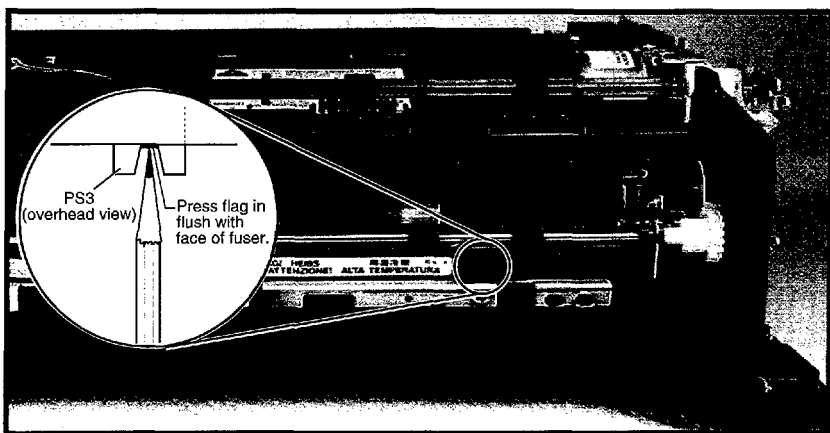

Figure 7-6 Defeating the Exit Sensor Flag (LaserJet 4P/4MP)
5. On the rear of the Fusing Assembly, use a pencil or flat-blade screwdriver to press the flag mechanism for the Exit Paper Sensor (PS3) in **just until it is about flush with the face of the fuser** (see Figure 7-6).